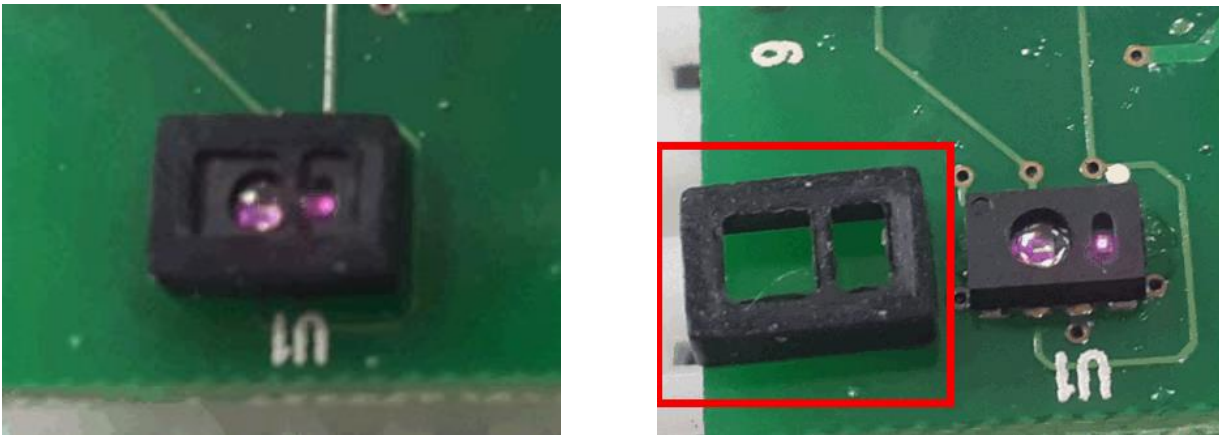

Figure 12, installation a soft rubber (Silicon cap)
- If the D_{airgap} is too large, add a soft rubber sleeve (Silicon cap) as shown in Figure 12 to increase the tightness and reduce the background noise.